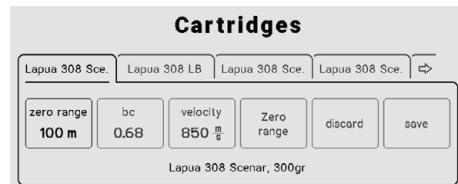

Abb. 5
5. To go to the menu for the configuration of the ammunition (Fig. 5): press the On/Off button (3/1) again briefly.